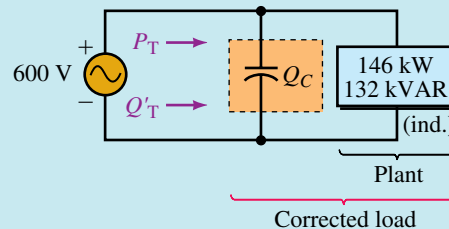

FIGURE 17–22
c. For the original circuit Figure 17–21(a), $S_T = 196.8 \text{ kVA}$. Thus,